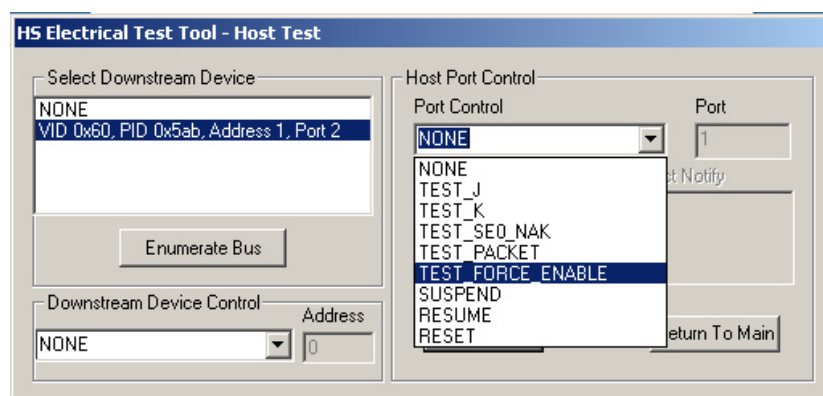

Figure 19. Test Force Enable Port Control Command
- a. In the Host Test menu of the Hi-speed Electrical Test Tool software select TEST_FORCE_ENABLE (Figure 19) from the Port Control window.